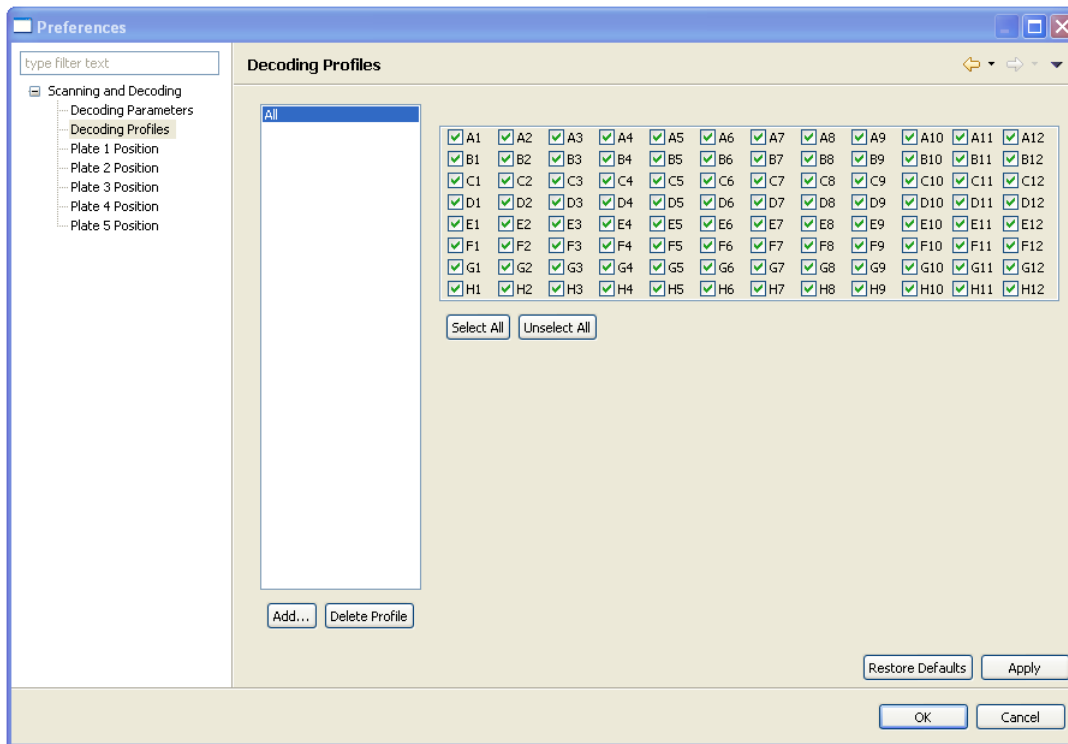

Figure 2.5: Decoding profiles preferences.
2. Now select each cell that should be part of the profile (see cells with a checkmark in Figure 2.5). When done selecting cells press the **Apply** button.